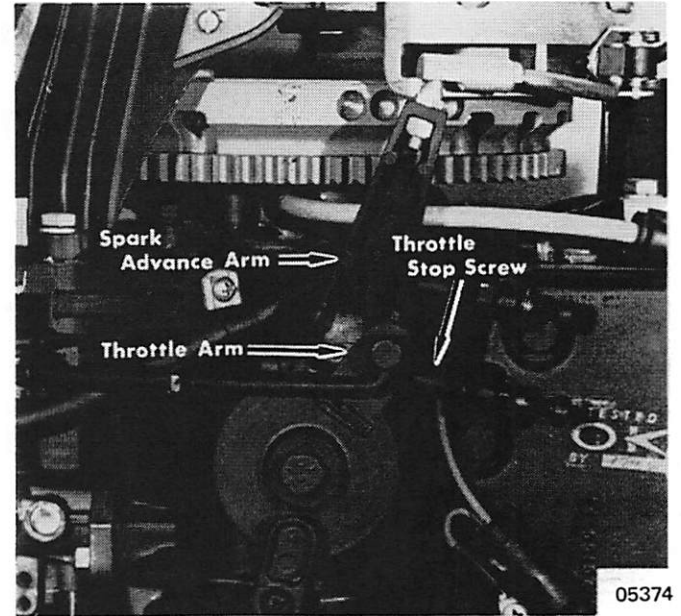

Figure 7. Adjusting Maximum Throttle
8. Rotate throttle arm to wide open throttle and adjust throttle stop screw (Figure 7) to allow full carburetor shutter opening with sufficient clearance (.010" - .015") (.25mm - .38mm) to prevent throttle linkage from binding. Tighten locknut.